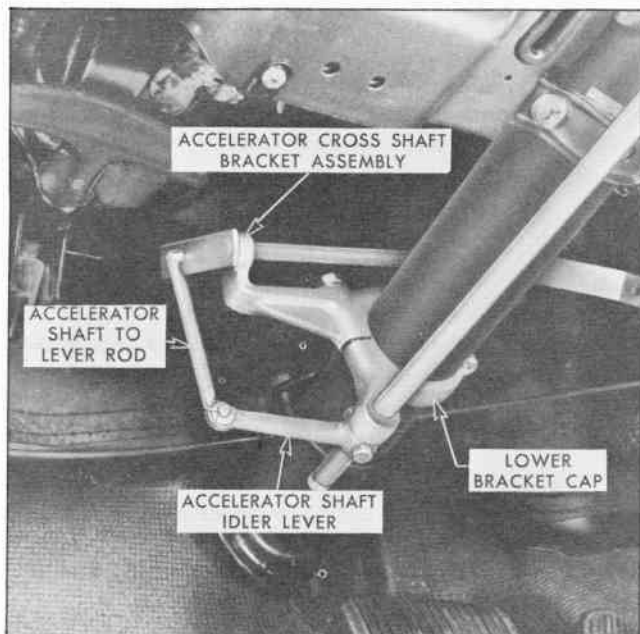

Fig. 3 Accelerator Cross-Shaft Assembly Installed
5. Assemble accelerator cross shaft bracket assembly (521134) and lower bracket cap to steering column with long clamp bolts threaded finger tight (See Fig. 3).
6. Assemble second nylon washer (513975) and accelerator shaft idler lever (517720) with offset up, to lower end of accelerator shaft using 1/4-20 x 1" clamp bolt, nut, lockwasher and plain washer through lever and shaft (See Fig. 3).